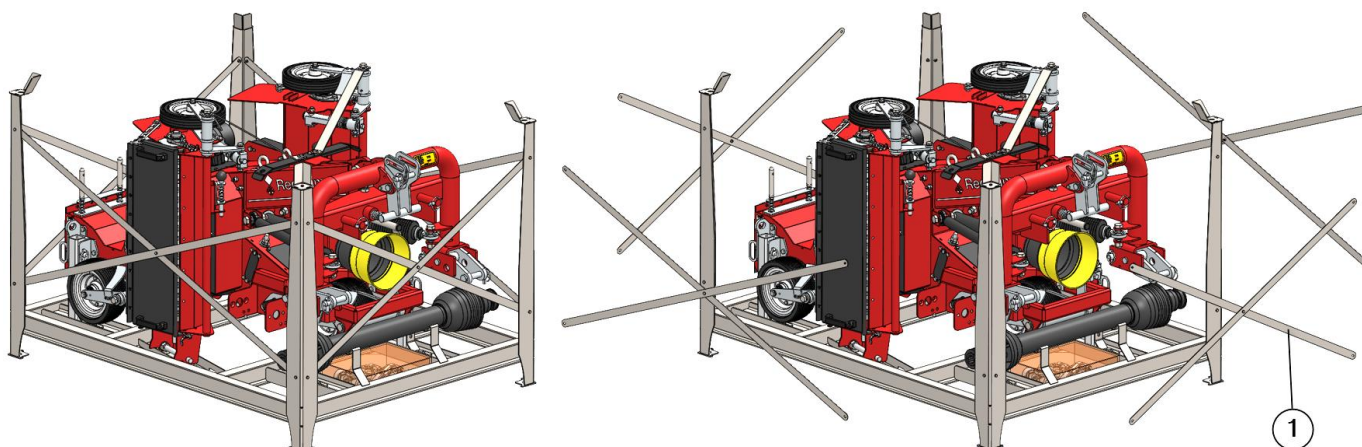
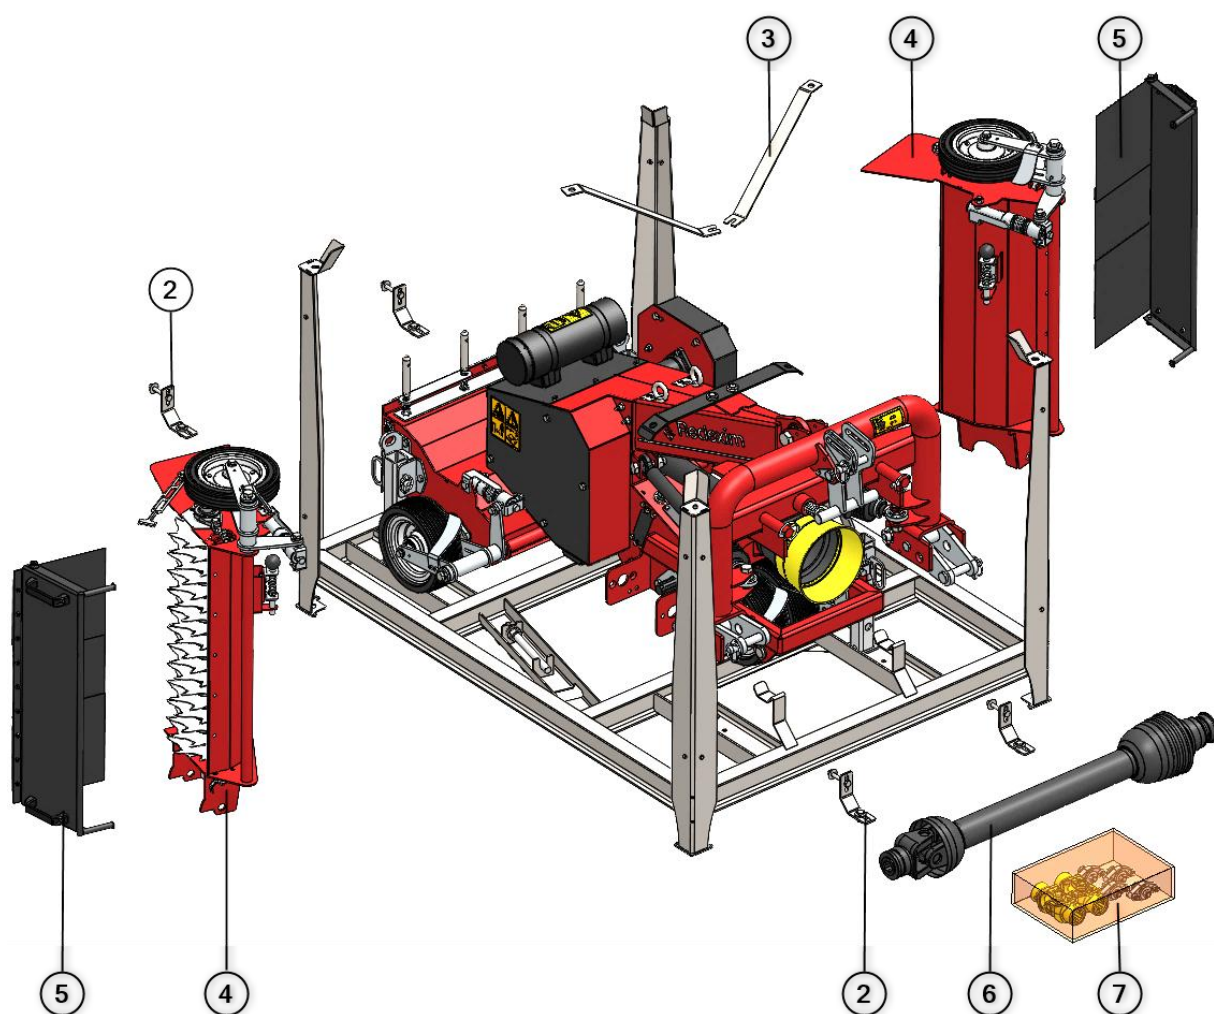
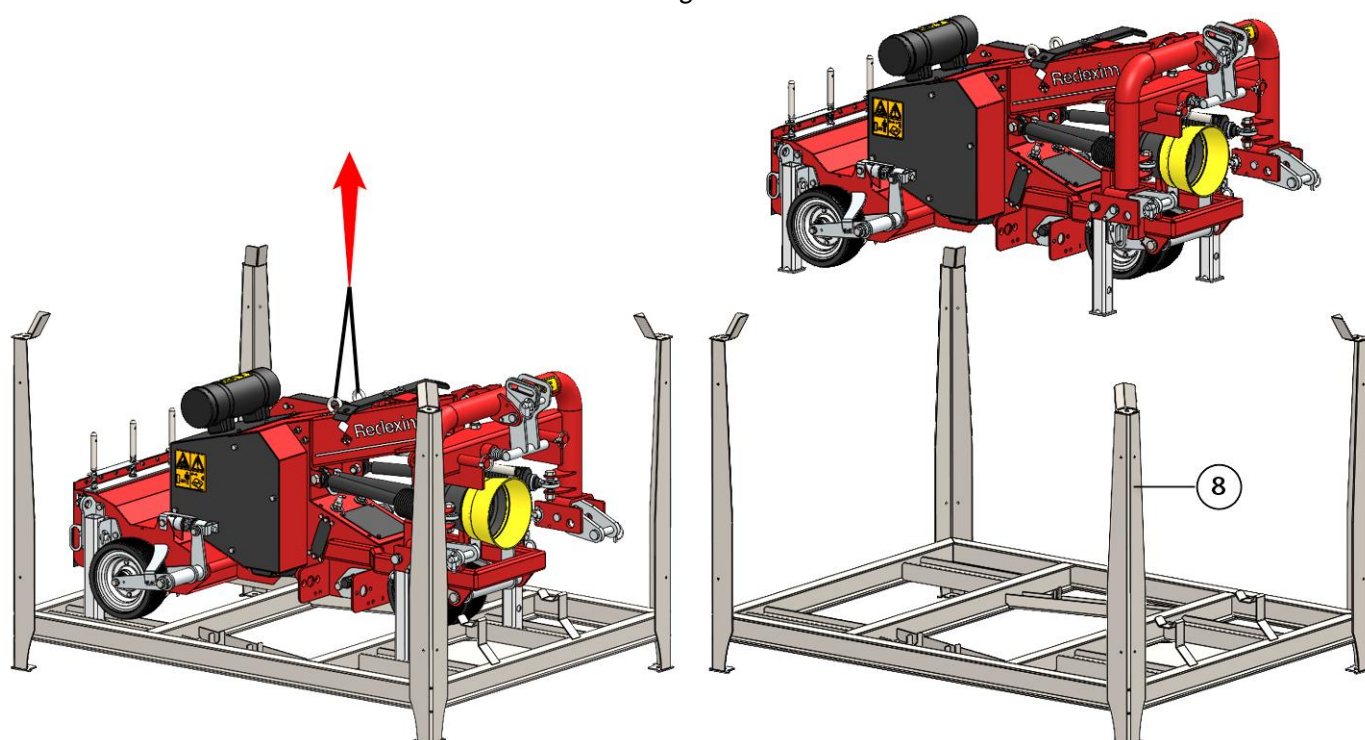

Fig. 2
Fig. 3
Fig. 4
The machine must first be removed from the pallet (see Fig. 2, Fig. 3 and Fig. 4):
1. Remove the cross-braces (1) to allow better access.
2. Then, remove the supports (2), brackets (3), wings (4), covers (5), PTO (6) and the box containing loose parts (7) from the pallet.
3. Carefully lift the machine by the lifting points (Fig. 4) to just above the pallet (8).
4. Remove the pallet (6) and lower the machine back to the ground.